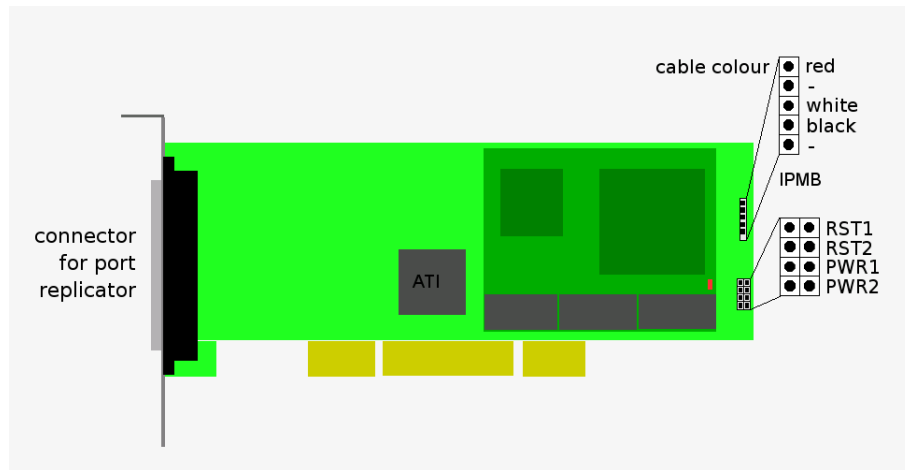
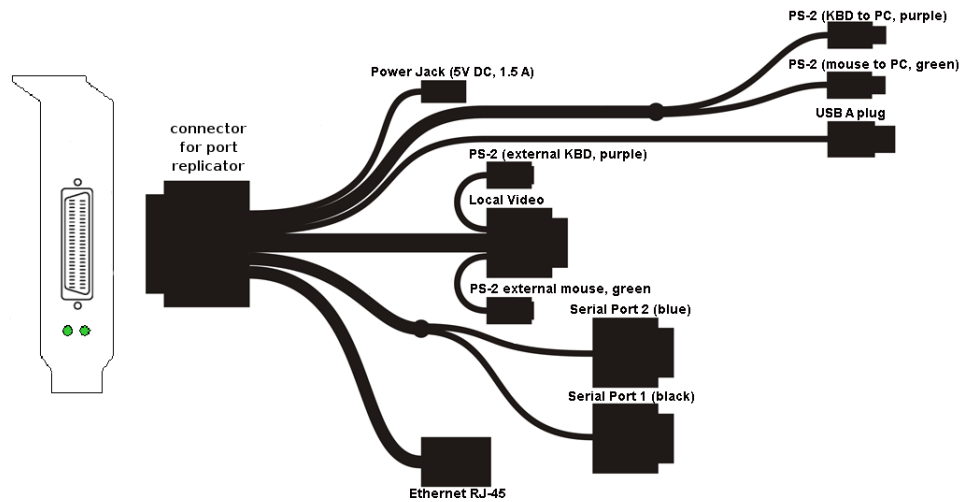

Figure 3-1. eRIC II internal connectors
Figure 3-2. eRIC II external connectors
Figure 3-1 and Figure 3-2 show all connectors and plugs of the eRIC II . The eRIC II is equipped with a link state indicator, a line speed indicator, four ATX Power Reset pins, and an IPMB connector. The port replicator has endings for power (power jack), PS/2 (plugs and sockets), local video, a USB plug, two serial ports, and an Ethernet
- Connect the 5 pin connector of the IPMB cable with the 1x5 pin IPMB connector on the eRIC II as shown in Figure 3-1 .
In case your system provides separated pins for reset and power on/off, obey the following steps while referring to Figure 3-1 .